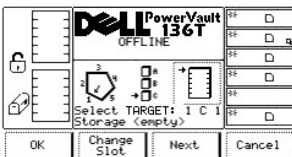

Figure 14. Status > Library > Slot > Change Slot Dialog
- 1 If the button beneath the **Next** softkey is selected, the current source parameter changes from magazine to slot and the Change Slot Dialog is displayed. See Figure 14.